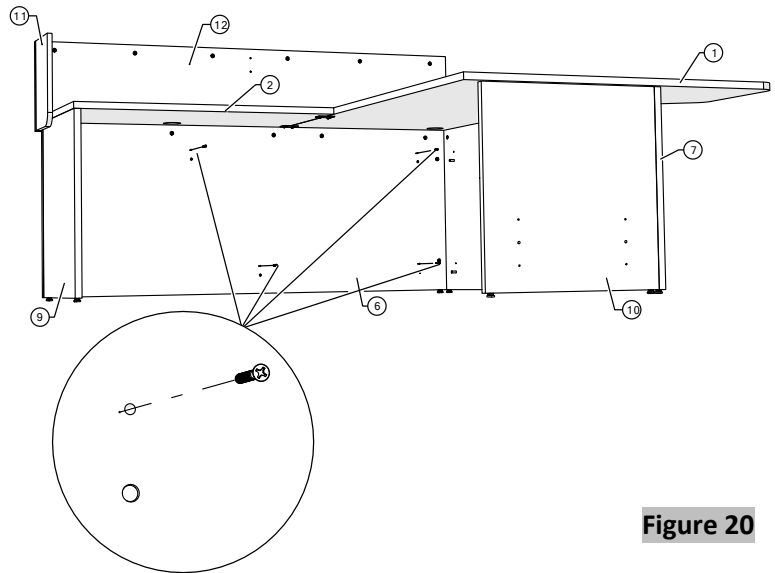

Figure 20
23. Screw in #8 x 1-1/2" Flat Head Screws into the pre-drilled holes to fasten the angled reception countertop modesty return (Figure 20).